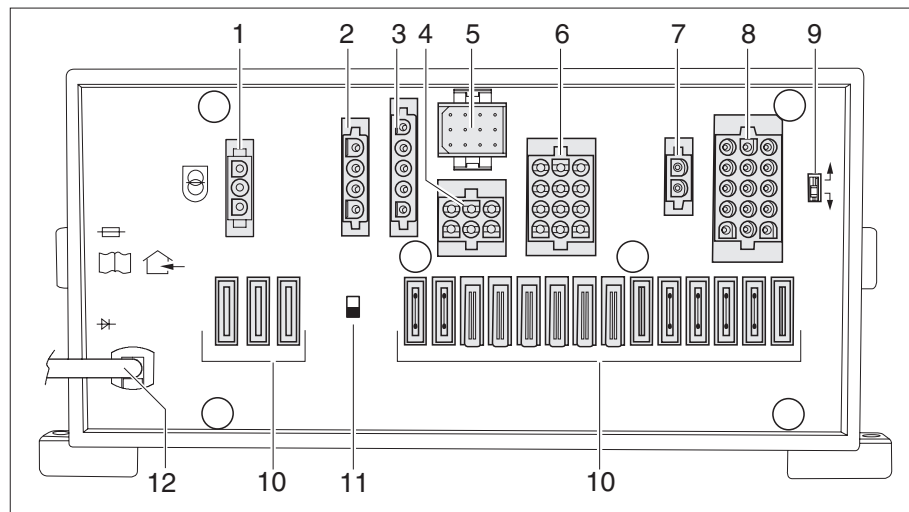

Fig. 140 Electrical block (EBL 31-2)
The EBL 31-2 (Fig. 140) electrical block is located under the driver's seat or under the seat bench, depending on the model.
- The battery cut-off switch (Fig. 140,11) disconnects all the appliances that are connected to the transformer/rectifier from the 12 V network.
The battery cut-off switch (Fig. 140,11) switches off all the living area 12 V appliances, including even the safety/drainage valve. This prevents the living area battery from slowly discharging if the vehicle is not used for a longer period of time (e.g. temporary lay-up).
- Push the battery cut-off switch (Fig. 140,11) upwards: Battery on.
- Push the battery cut-off switch (Fig. 140,11) downwards: Battery off.